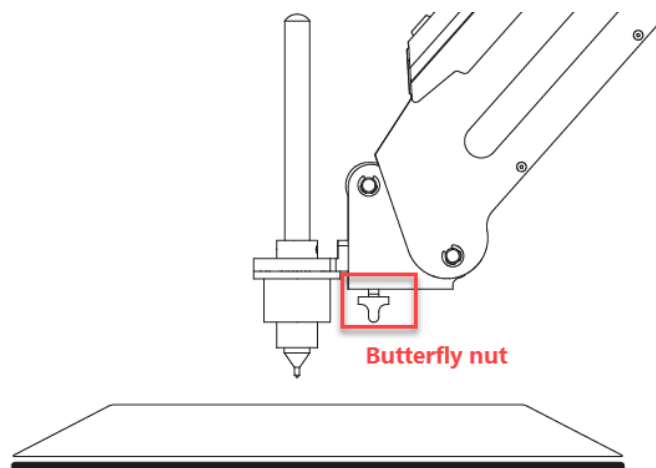

Figure 5.36 Install a writing kit
Step 2 Fasten the writing kit to the Dobot Magician's end with a butterfly nut, as shown in Figure 5.36.